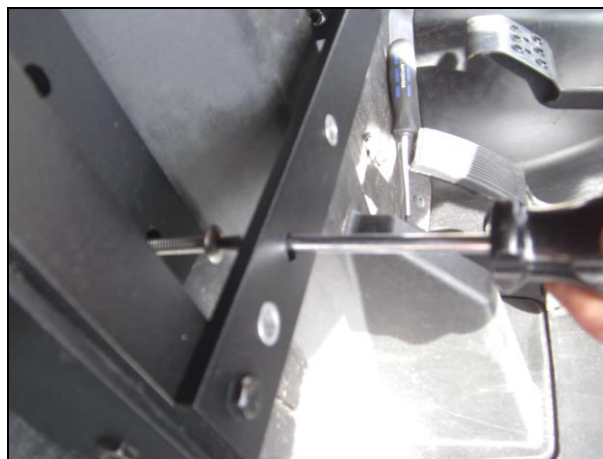

FIG. 4
STEP 3- Attach the QD800PMP2 plate to the Polaris floorboard using the ¼-20 x ½" floorboard screws OR M6-1.00x40mm screws & flat washers provided. Tighten securely. **SEE FIG. 4**
SEE FIG. 4